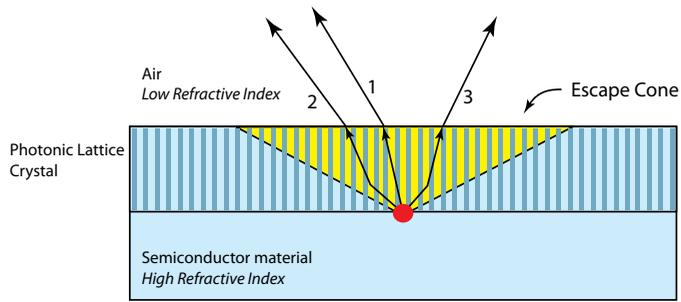

Figure 6 – Photonic lattice structure
**Figure 6** shows a very simplified representation of the layout. The photonic lattice crystals in the upper part of the semiconductor sandwich tend to redirect the light along their length and thus much closer to the normal of the semiconductor/air boundary, avoiding TIR reflections back into the material. The very latest developments in this technology in real products from companies like Luminus Devices and Philips Lumileds are achieving light extraction efficiencies in excess of 70%—a far cry from the 2% efficiencies we started at!